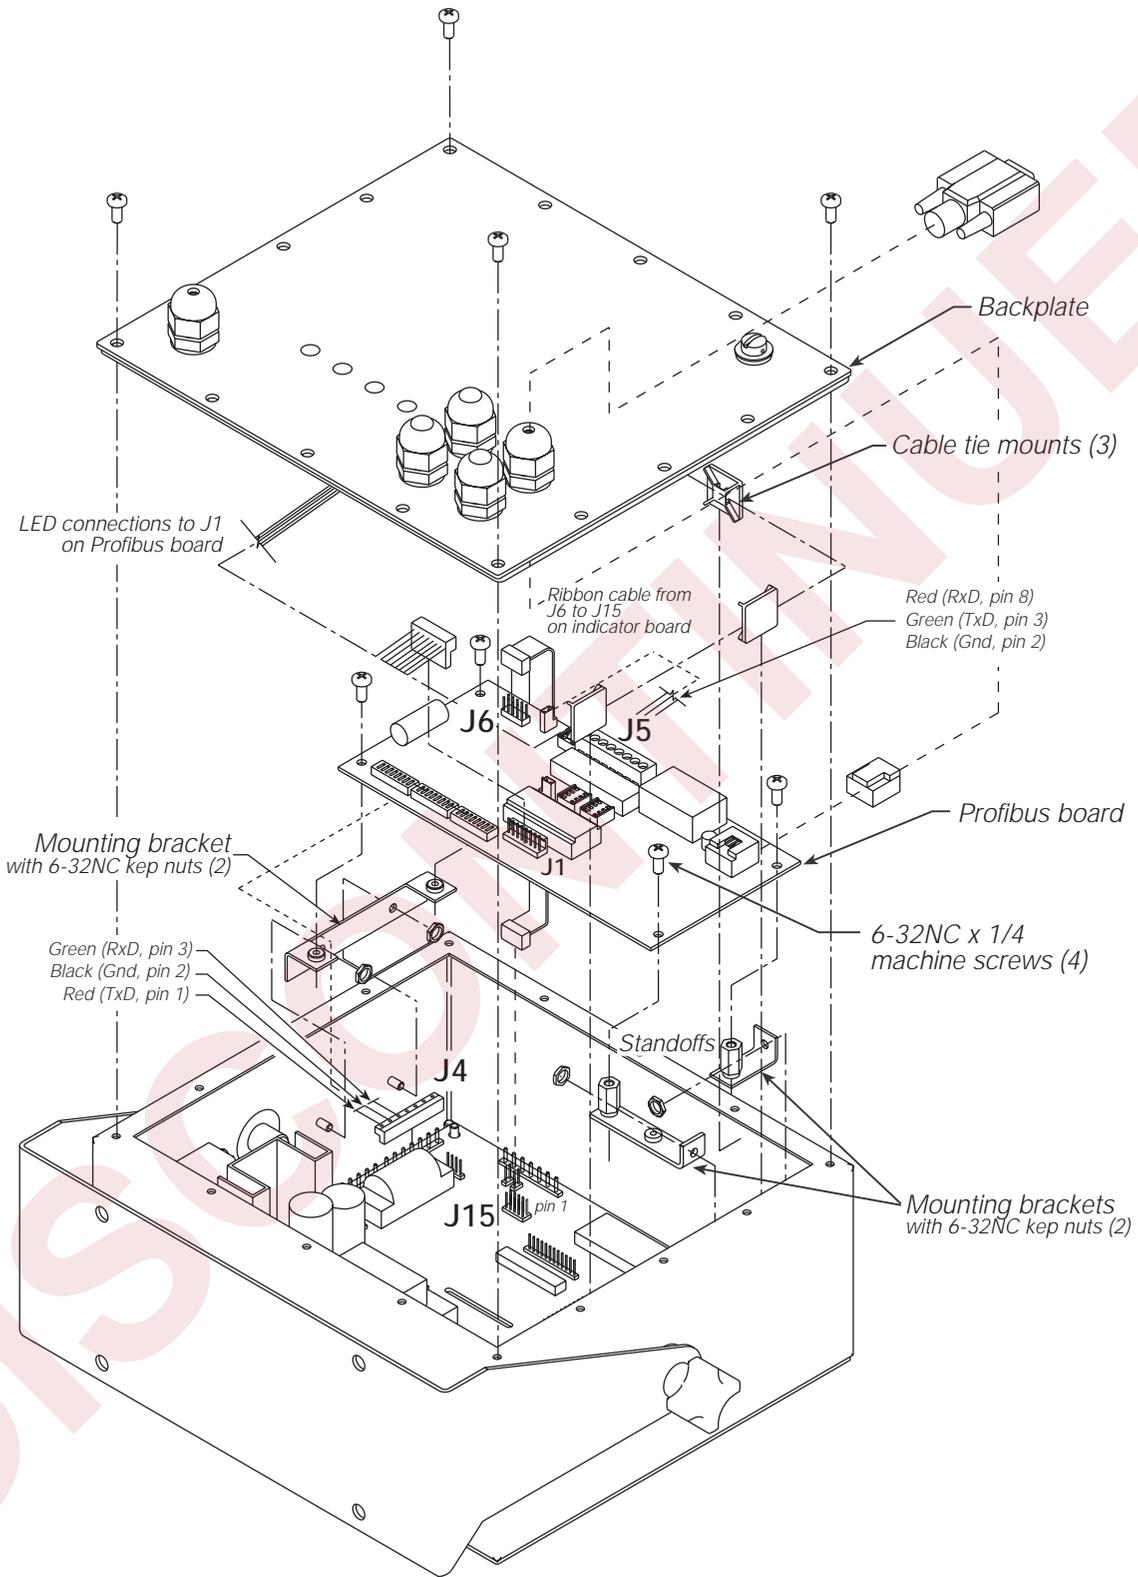

Figure 2-3. Profibus Indicator Interface Board Installation and Wiring
8. Use the four 6-32NC kee nuts supplied to mount the three brackets as shown in Figure 2-3 on page 4.
9. Remove connector J4 from the header on the indicator CPU board. Connect serial communications wires to the connector as shown in Table 2-1 and in Figure 2-3, then reinstall J4 on the indicator board.
10. Plug 10-pin ribbon cable into connector J15 on the indicator CPU board as shown in Figure 2-3. Ensure connector is oriented as shown in the drawing, with red wire of ribbon cable toward center of board.
11. Use the four 6-32NC x 1/4 machine screws supplied to mount the Profibus Indicator Interface board on the brackets as shown in Figure 2-3.
14. Plug power supply ribbon cable connector from J15 on the indicator CPU board into connector J6 on the Profibus Indicator Interface board. Ensure cable is oriented as shown in Figure 2-3, with red wire of ribbon cable attached at pin 1 on the Profibus board.